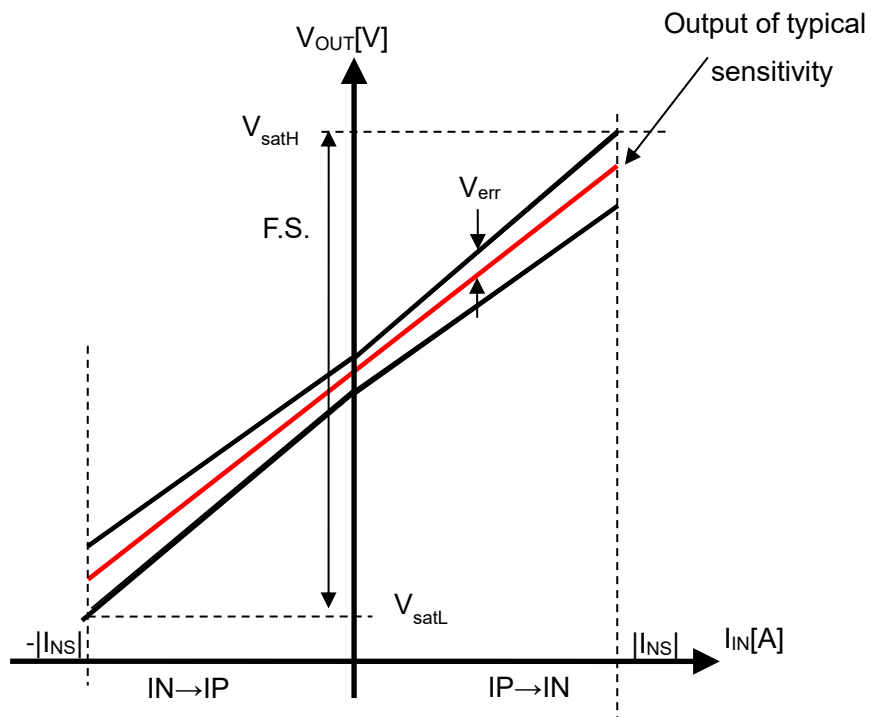

Figure 4. Total Accuracy of CZ-3AG7
10.2. Total Accuracy E_{total} [%F.S.] is defined as below (See Figure 4.)